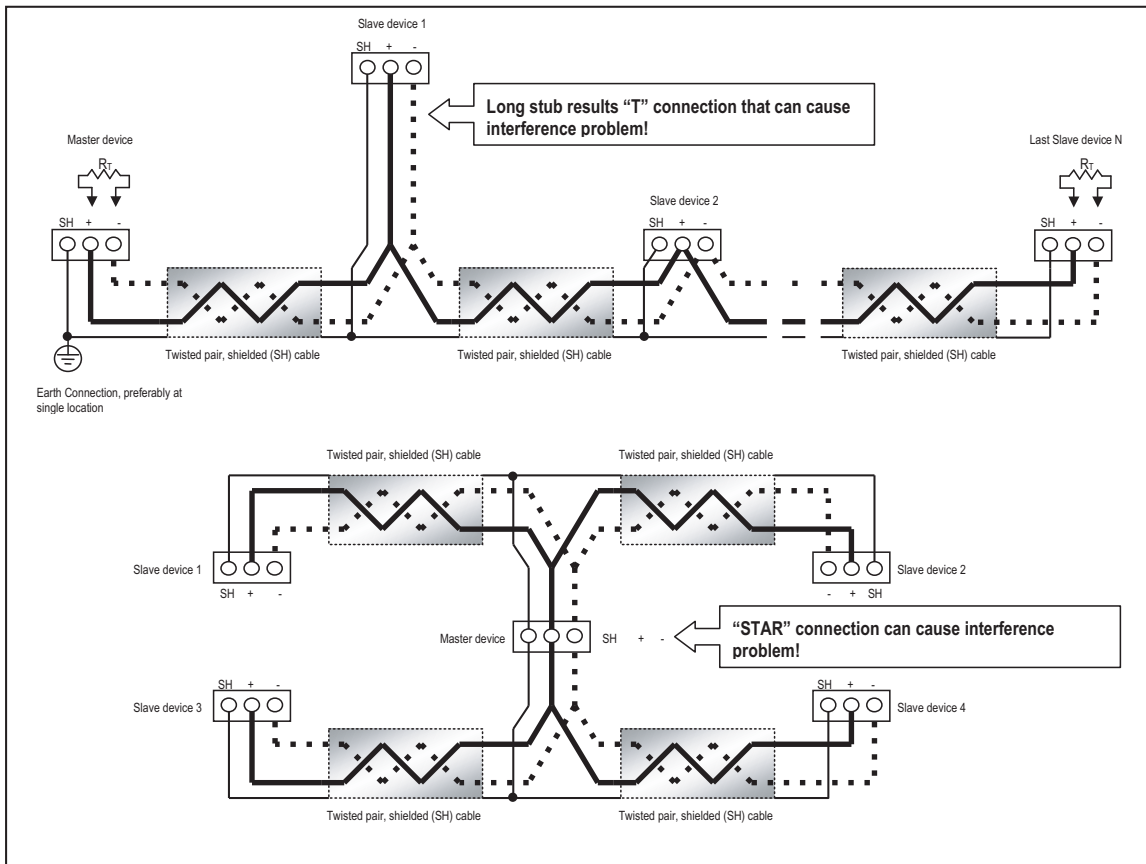

Figure 5.5: Incorrect "T" and "Star" Topologies
- Avoid both "Star" and "Tee" connections (see Figure 5.5).